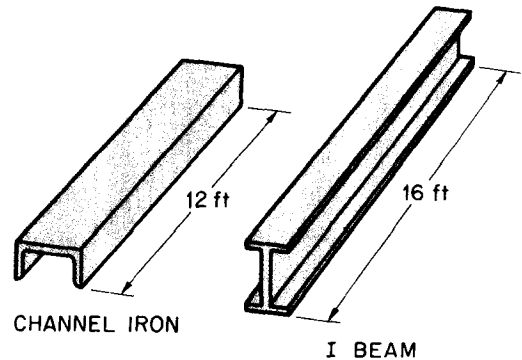

Fig. 1-4
1. A building contractor orders 25 lengths of channel iron and 18 lengths of I beam as shown in figure 1-4. What is the total length of channel iron and I beam ordered?